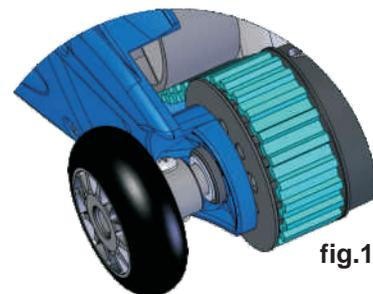

fig.1
**DURAMAX DUO/DUO Jr/RC** This machine has a *delayed start* feature where the machine can start cleaning the pool an hour after the Main Power Supply is turned on. This is done by switching the power supply on (fig 1) and pressing the delay button on the remote control (No.4). The UP/DOWN button allows the machine to reverse itself both on the wall and floor. If for any reason the machine is stuck on the pool floor for more than 6 minutes it will reverse (the Duramax RC has 2.5 minutes before reversing.) If the machine does not climb a wall within 6 minutes, it will reverse in the other direction. If the machine climbs out of the water, it reverses itself every 25 seconds. The machine can be programmed for *wall and floor or floor only* cleaning. The default mode is set to clean the floor only. To change the mode to clean the floor and wall, press the forward/reverse button on the remote control once then turn the Main Power Supply switch on and the floor only mode will be engaged. After the Power Supply switch is turned on the machine will first search for the wall. After it finds the wall, the machine climbs the wall and remains on the wall for 2 seconds or 45 seconds ("*pool floor only*" and "*pool floor and wall*" mode respectively) after which it reverses itself to head towards the pool floor. The machine will move away from the wall for about 2 seconds turn, reverse and will search for the opposite wall. The machine will climb the wall and remains on the wall for 2 seconds or 45 seconds ("*pool floor only*" and "*pool floor and wall*" mode respectively) after which it reverses itself towards the pool floor. After this the program will repeat itself. Between 1 to 4 minutes the machine will turn on the pool floor. The machine will perform a 90 degree turn and alternate between right and left turns
This machine has a one hour *delayed start* feature. The cleaner can start cleaning the pool an hour after the Main Power Supply is turned on. This is done by switching the power supply on (fig 1) and pressing the delay button on the remote control (Fig 4). The DURAMAX TRIO is a floor cleaning machine only. The UP/DOWN button allows the machine to reverse itself on the pool floor. If the machine is hung-up on the pool floor for more than 5 minutes or if the machine does not reverse within 8 minutes, it will reverse in the other direction. If the machine leaves the water, it will reverse itself every 25 seconds until it locates water. If water is not located it will shut itself off. After the Power Supply switch is turned on the machine will first search for the wall. After it finds the wall, the machine climbs the wall and remains on the wall for 2 seconds turn, reverse and head towards the pool floor. The machine will move away from the wall for about 2 seconds, turn, and will search for the opposite wall. It will climb the wall and remains on the wall for 2 seconds after which it will reverse itself towards the pool floor. After this, the program will repeat itself. Between 1 to 4 minutes the machine will turn on the pool floor. The machine will perform a 90 degree turn alternately between the right and the left.
Locate the small arrow molded into the Bushing (fig 1.) When installing the Bushing, if the arrow is pointed towards the center of the machine the Drive Track will be made tighter. If the arrow is pointed away from the machines center the Drive Tracks will be looser.